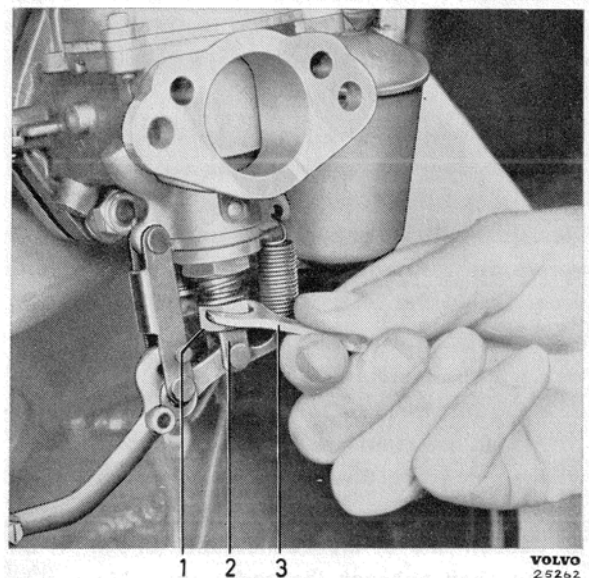

Fig. 19. Setting the adjuster nut.
Idling setting is carried out partly by means of the screws (3 and 7, Fig. 4) on the throttle arms which regulate engine speed, and partly by turning the adjuster nuts on the jet heads (1, Fig. 19) whereby the richness of the fuel mixture is altered. When the nuts are screwed down, a richer fuel mixture is obtained. If the nuts are screwed up the mixture will be leaner. The richness of the mixture is set during idling to cover the whole speed range of the engine.
5. Adjust the jets by turning the adjuster nuts so that the idling speed is as high as possible with unchanged throttle opening. Adjust the carburetors one at a time. First screw the adjuster nuts (1, Fig. 19) upwards (leaner mixture) until the engine runs unevenly and then in the opposite direction until the engine runs perfectly smoothly. If the idling speed is too high it can be decreased by unscrewing the idling screws on the throttle shaft levers. Then check again as specified above that the air intake is equal on both carburetors.